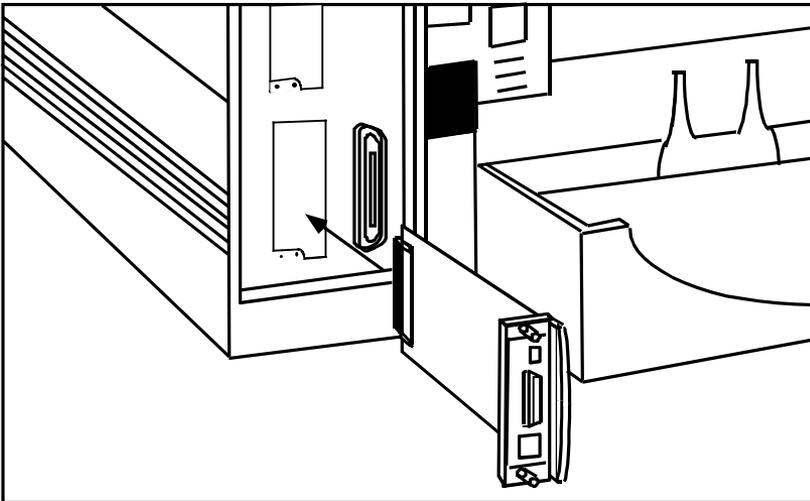

Figure 2-2
The XJet 2000 plugs into the I/O slot located on the rear of your printer or plotter as shown in figure 2-2. The installation steps are as follows:
3. Insert the XJet 2000 into the I/O slot and tighten down the two thumbscrews as shown in figure 2-2.